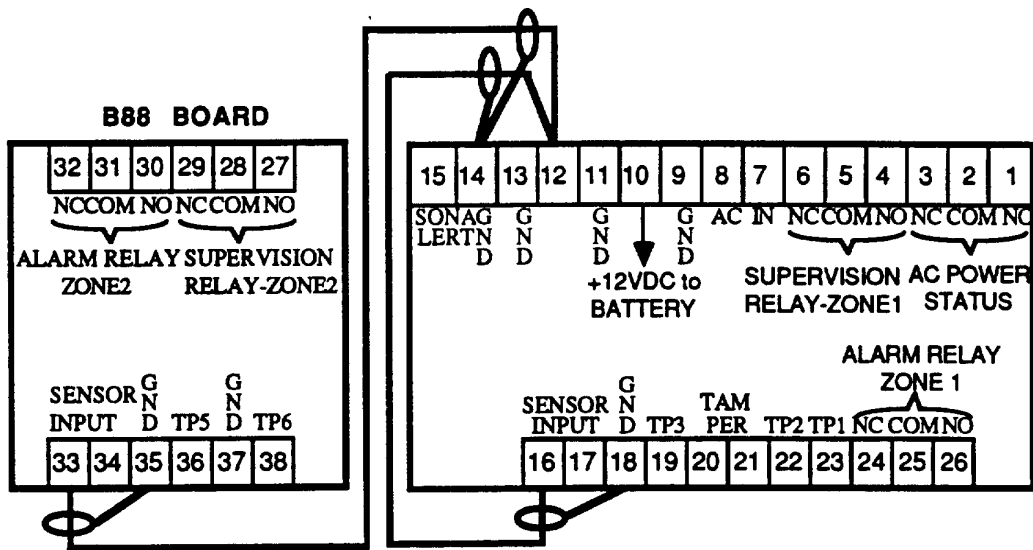

Figure 6-1. Test Cable Connections
- c. Install test cable (model 2500) as shown in Figure 6-1.
2. Install the test cable (model 2500). Refer to Figure 6-1.